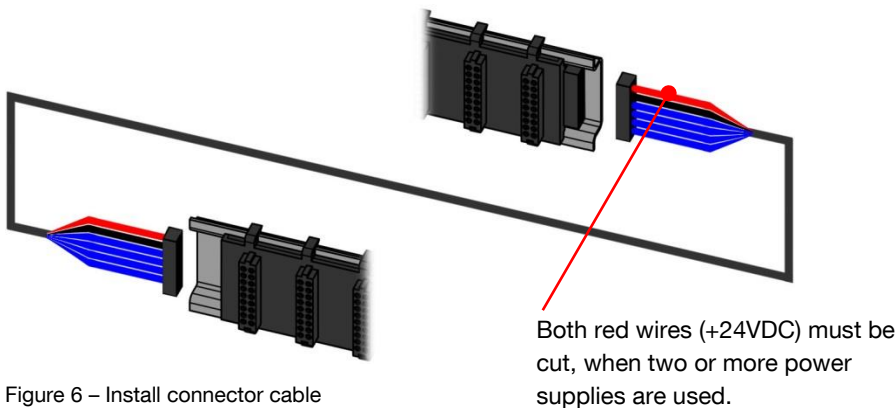

Figure 6 – Install connector cable
- Red and black wire must face upwards, blue wires must face downwards. (Refer to figure 6)